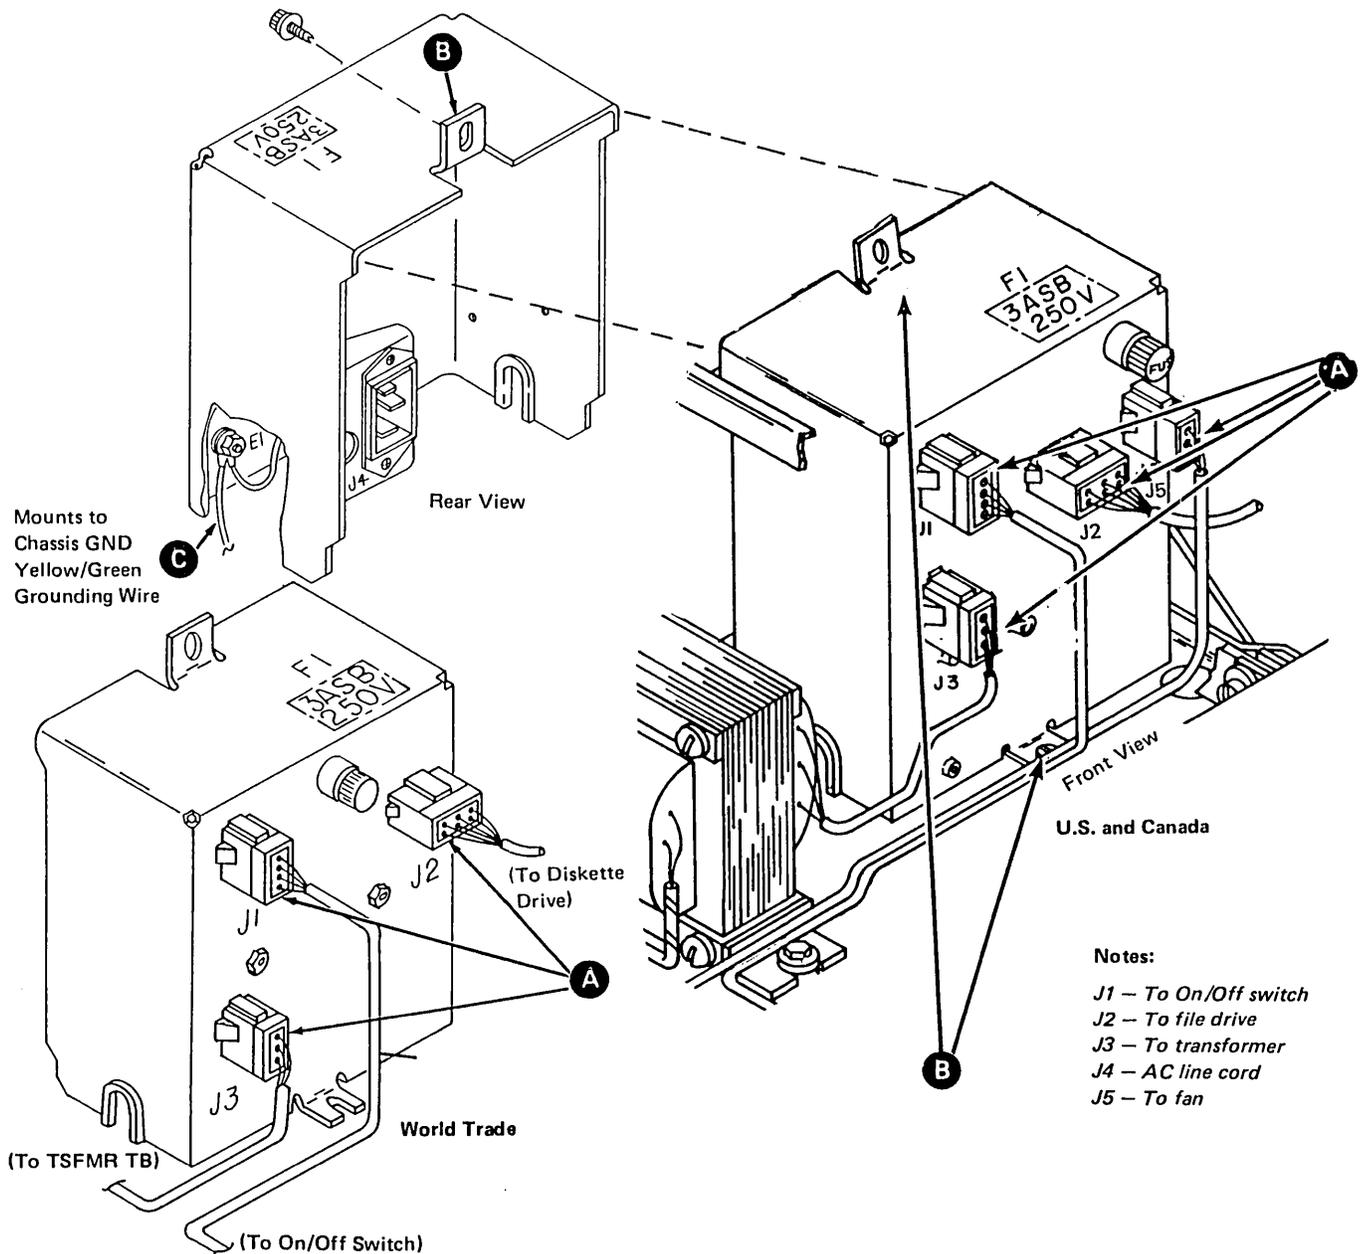

Figure 4-4. Prime Power Box
4.5 Prime Power Box, Removal and Replacement (Figure 4-4)